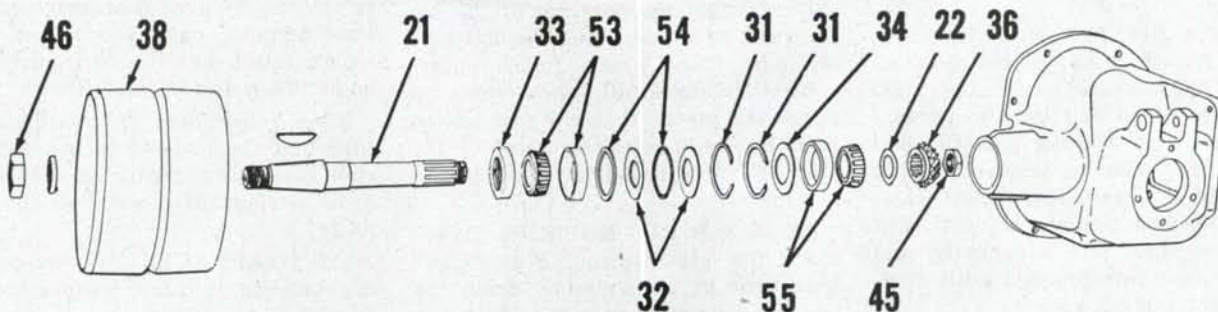

Fig. AC152—Model CA accessory units housing showing belt pulley shaft and related parts.
bearing cup shims and snap ring will remain in the housing. If this cup is removed for any reason, be sure to retain and mark the shim or shims located between the cup and the snap ring. Remove nut (45—Fig. AC152) and shims from inner end of belt pulley shaft. Bump belt pulley shaft out through side of housing and with it, the oil seal (33) outer bearing cone and shims (22). Bearing cups can now be removed from the housing.